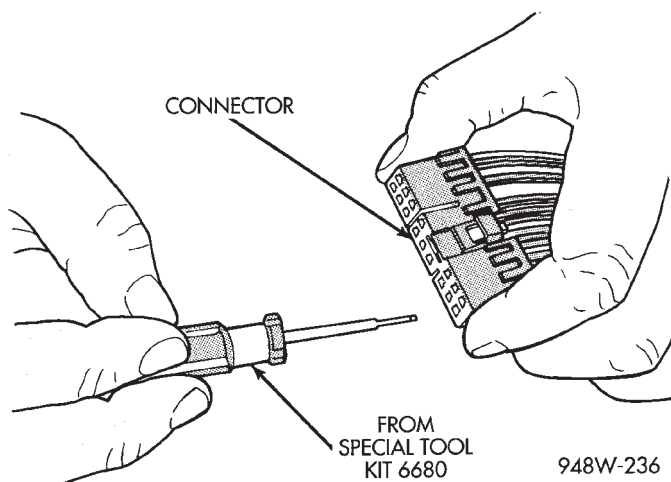

Fig. 22 Terminal Removal
- (4) Position the connector locking finger away from the terminal using the proper pick from special tool kit 6680. Pull on the wire to remove the terminal from the connector (Fig. 22) (Fig. 23).